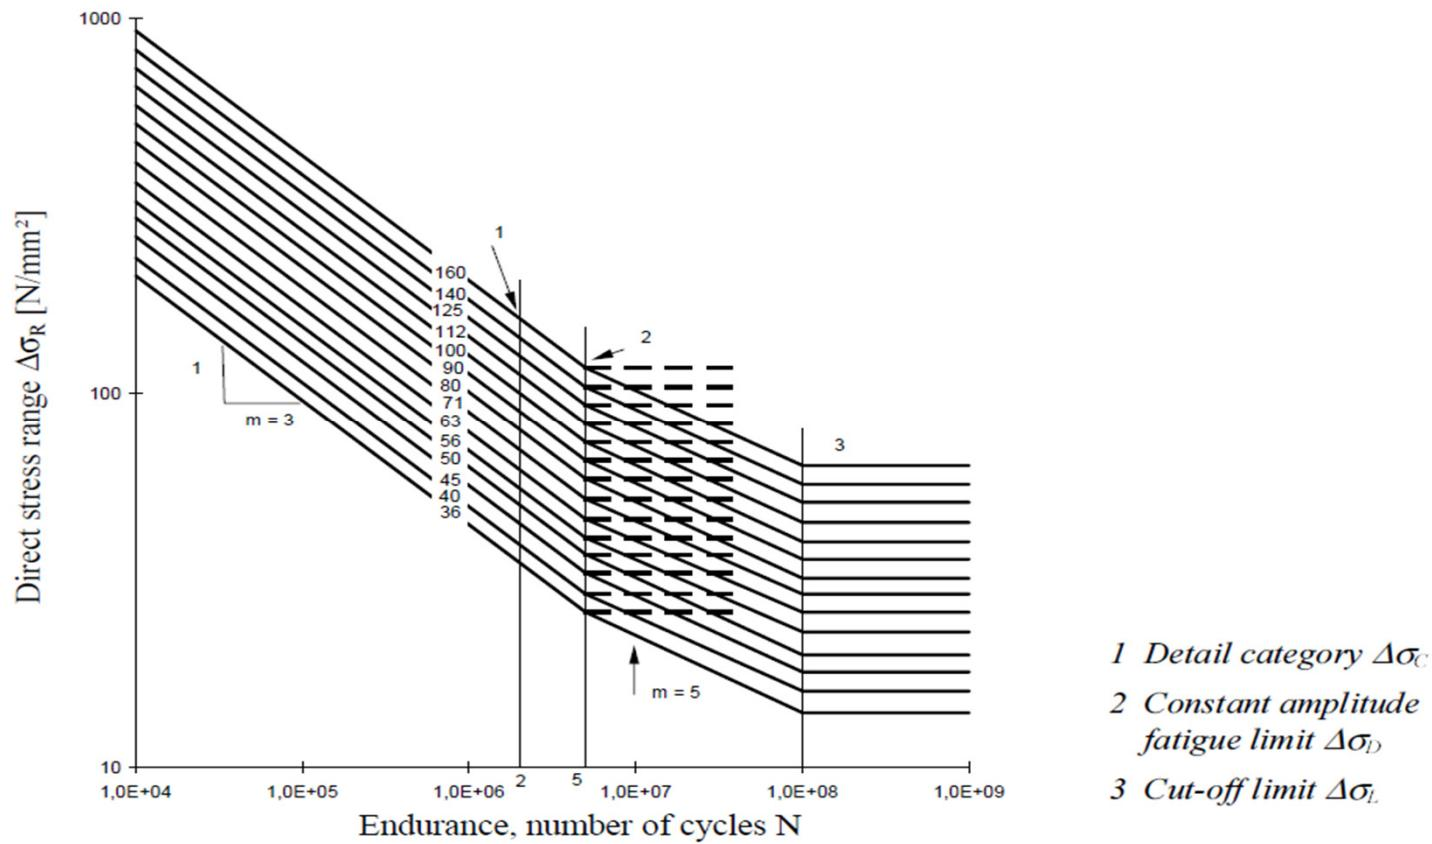
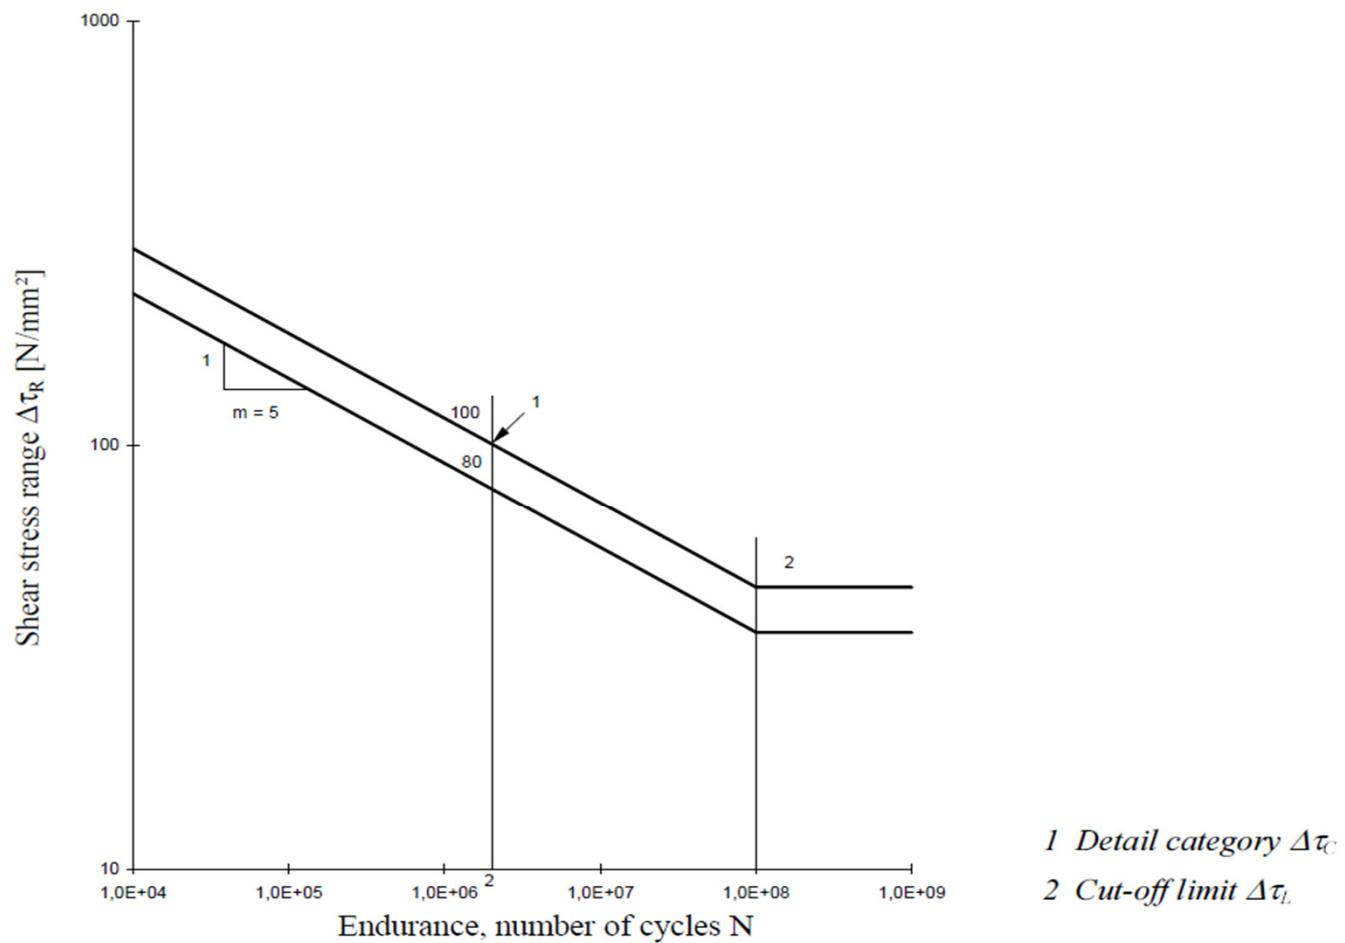

Figure 7.1: Fatigue strength curves for direct stress ranges
Figure 7.2: Fatigue strength curves for shear stress ranges
- (1) The fatigue strength for nominal stresses is represented by a series of $(\log \Delta\sigma_R) - (\log N)$ curves and $(\log \Delta\tau_R) - (\log N)$ curves (S-N-curves), which correspond to typical detail categories. Each detail category is designated by a number which represents, in N/mm^2 , the reference value $\Delta\sigma_C$ and $\Delta\tau_C$ for the fatigue strength at 2 million cycles.
- (2) For constant amplitude nominal stresses as shown in Figure 7.1 and Figure 7.2 fatigue strengths can be obtained as follows:
$$\Delta\sigma_R^m N_R = \Delta\sigma_C^m 2 \times 10^6 \quad \text{with } m = 3 \text{ for } N \leq 5 \times 10^6, \text{ see Figure 7.1}$$
$$\Delta\tau_R^m N_R = \Delta\tau_C^m 2 \times 10^6 \quad \text{with } m = 5 \text{ for } N \leq 10^8, \text{ see Figure 7.2}$$
$$\Delta\sigma_D = \left(\frac{2}{5} \right)^{1/3} \Delta\sigma_C = 0,737 \Delta\sigma_C \quad \text{is the constant amplitude fatigue limit, see Figure 7.1, and}$$
$$\Delta\tau_L = \left(\frac{2}{100} \right)^{1/5} \Delta\tau_C = 0,457 \Delta\tau_C \quad \text{is the cut off limit, see Figure 7.2.}$$
$$\Delta\sigma_L = \left(\frac{5}{100} \right)^{1/5} \Delta\sigma_D = 0,549 \Delta\sigma_D \quad \text{is the cut off limit, see Figure 7.1.}$$